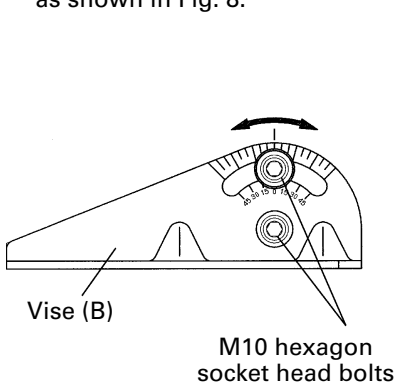

Fig. 8
Loosen the two M10 hexagon socket head bolts on the vise (B), then set the working surface on the vise-jaw at any angles of 0°, 30° or 45° as shown in Fig. 7. Upon completion of setting, securely tighten the two M10 hexagon socket head bolts, as shown in Fig. 8.